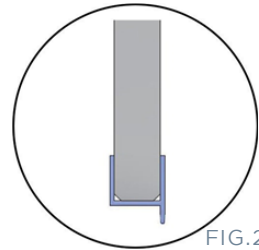

FIG.27
- If required, slide drip seal onto bottom of door and trim fin (FIG 27). Seal should just miss top of base when door is shut. If gap between door and floor is too large, seal can be lowered up to 6mm. Seal fin can also be trimmed if too long